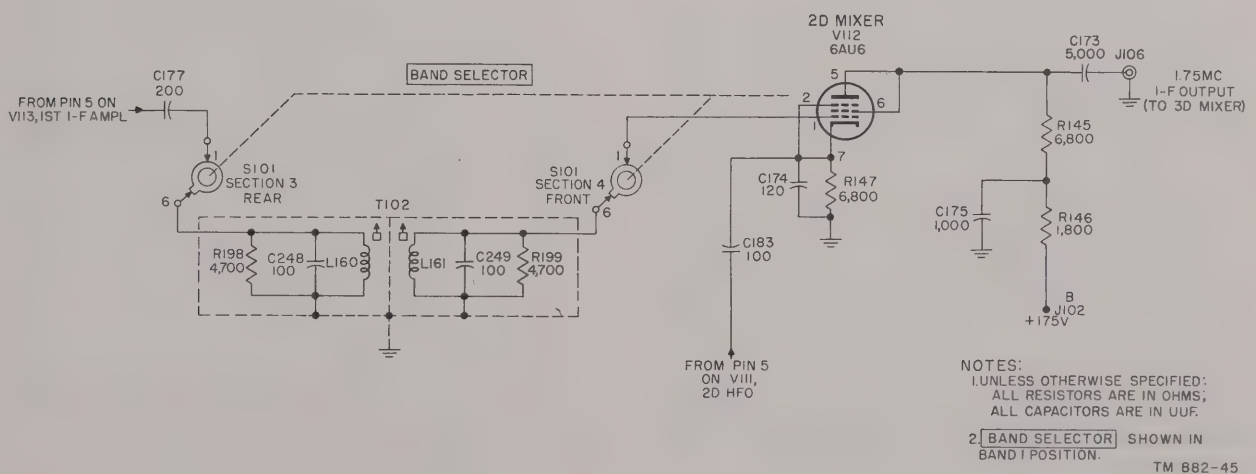

Figure 44. Second mixer.
(figs. 44, 45, and 46)
d. *Second Mixer Operation and Output Circuit* (fig. 44). The output of the crystal circuit which is chosen is applied to the second mixer cathode and beats with the signal from the first i-f amplifier.